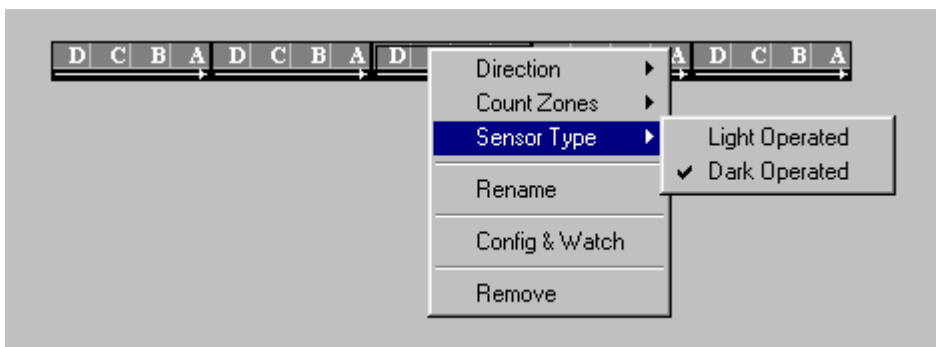

Fig. 4.21
- Approach Sensor Type item to open the alternatives box – Fig. 4.21 and select the appropriate type of the photosensor.